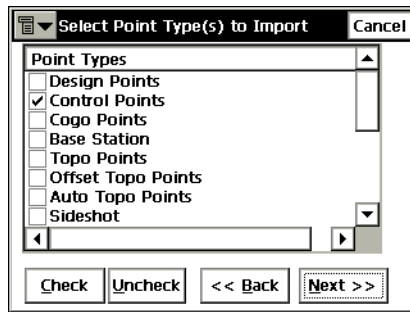

Figure 5-3. Select Point Type(s) to Import
- If *By Type* or *By Type, Range and Code* selected in the *Points* drop-down menu, the *Select Point Type(s) to Import* screen displays. On this screen, select the types of points to be imported (Figure 5-3).